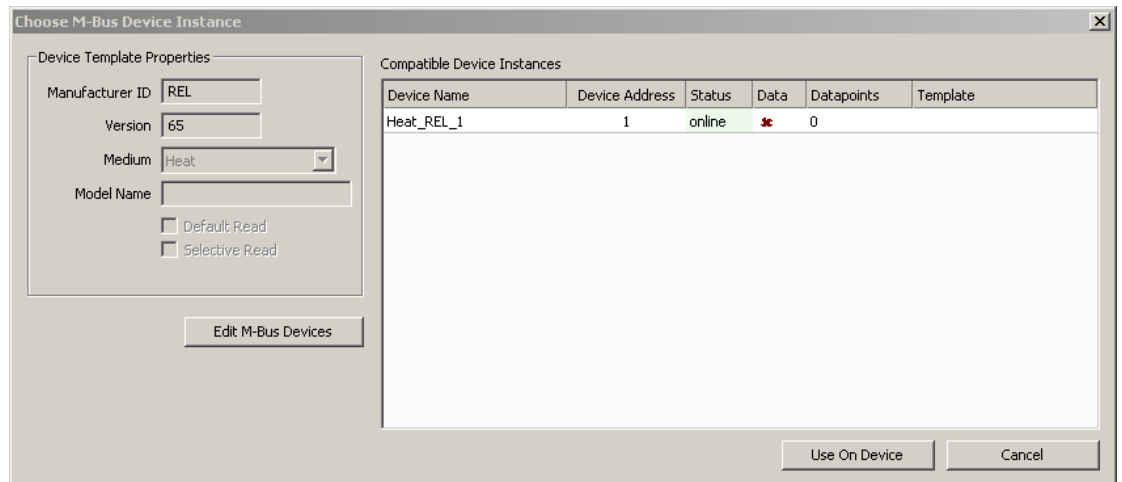

Figure 132: Use on Device dialog.
3. Either press on the **Use on Device** button  or right-click and select **Use on Device**. This opens the **M-Bus Configure Device For Use** dialog shown in Figure 132.